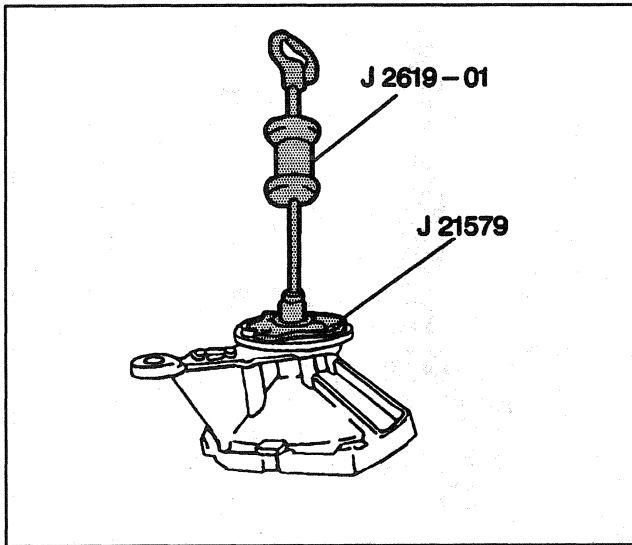

Figure 13—Removing the Left Shaft
15. The left output shaft with deflector using tool J 2619-1 (Figure 13).